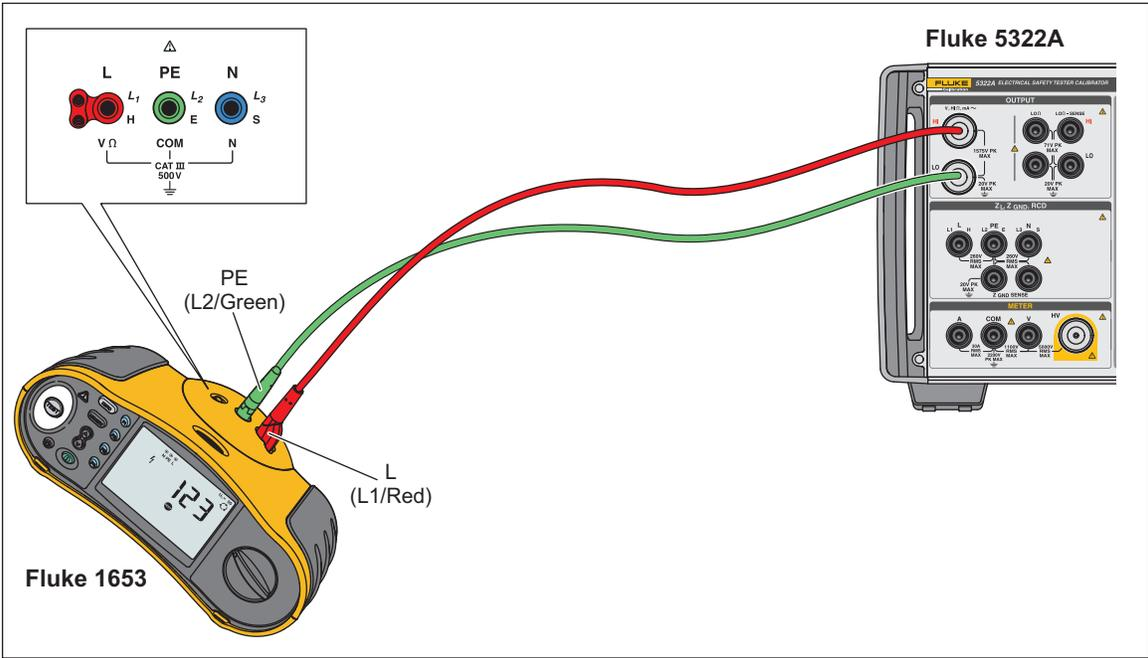

Figure 52. Voltage Calibration on Battery-Powered Installation Testers
1. Refer to Figures 52, 53, and 54 to connect the DUT to the Product OUTPUT **V HI** and **LO** terminals.